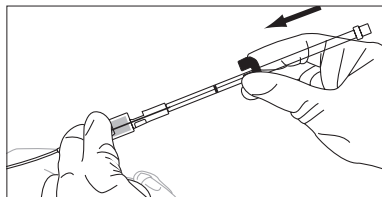

Figure 1
5. Stabilize position of introducer needle and carefully advance spring-wire guide as far as required into vessel using actuating lever (refer to Figure 1).